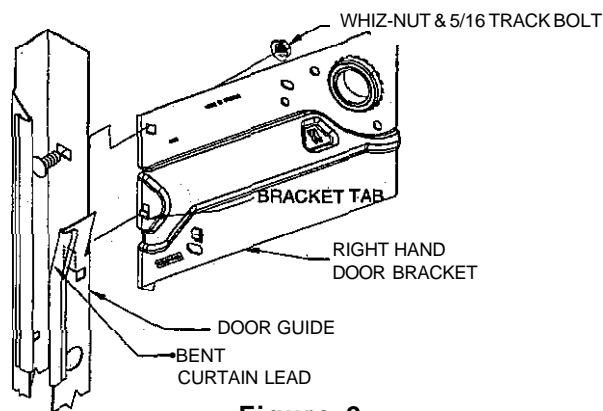

Figure 2.
4.1 Position the bracket tab on each bracket into the slot in the side guides and slide upward into place. Bolt the left and right door brackets to the door guides with one (1) 5/16" track bolt and whiz nut in each guide. See Figure 2. **MAKE CERTAIN BACK OF DOOR BRACKET AND DOOR GUIDES ARE FLUSH!!!**